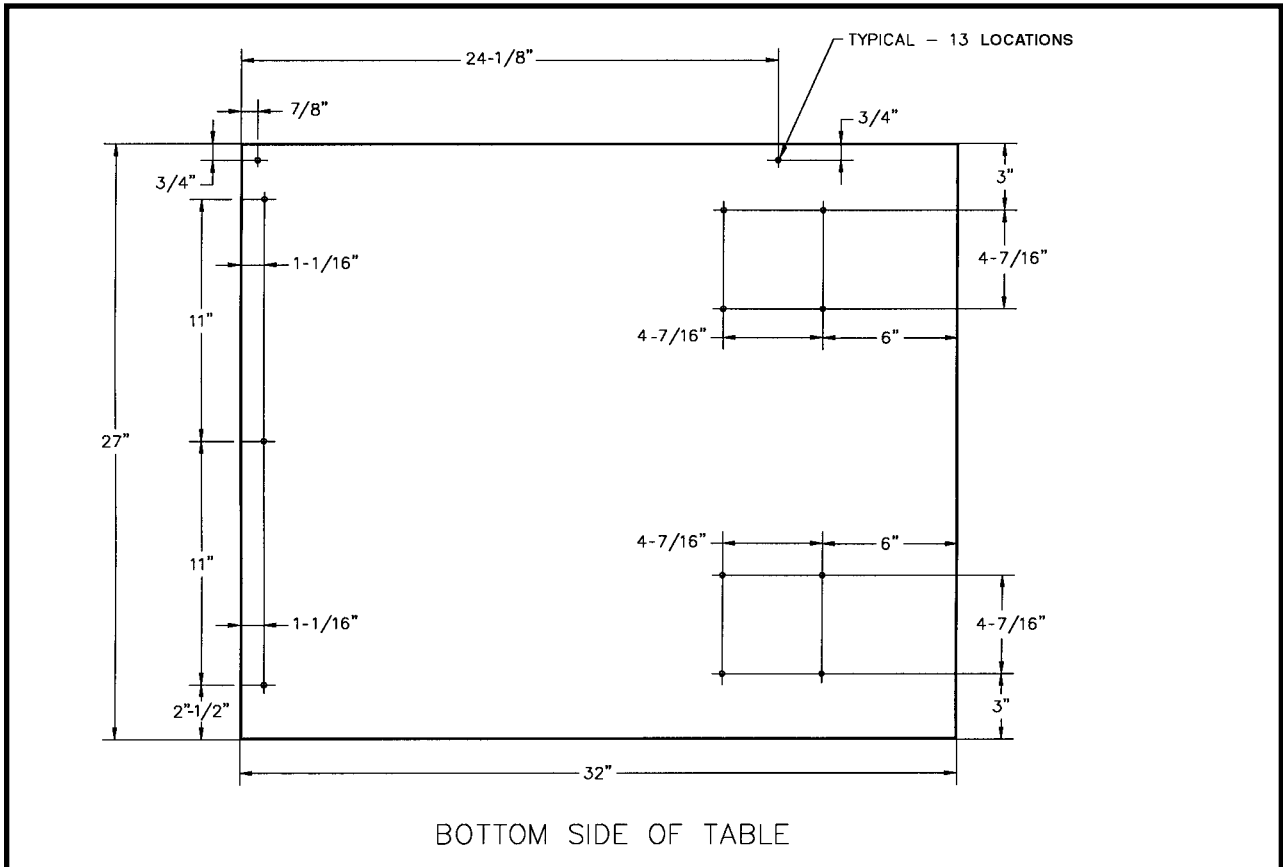

Fig. 48
1. The table board supplied will require thirteen locations to be marked on the bottom of the table board at the locations illustrated in Fig. 48. **NOTE:** The table board should be positioned so that the edge with no veneer is on the side that will be attached to the extension wing. Turn the table board upside-down with the raw edge to the left for leg hardware mounting.